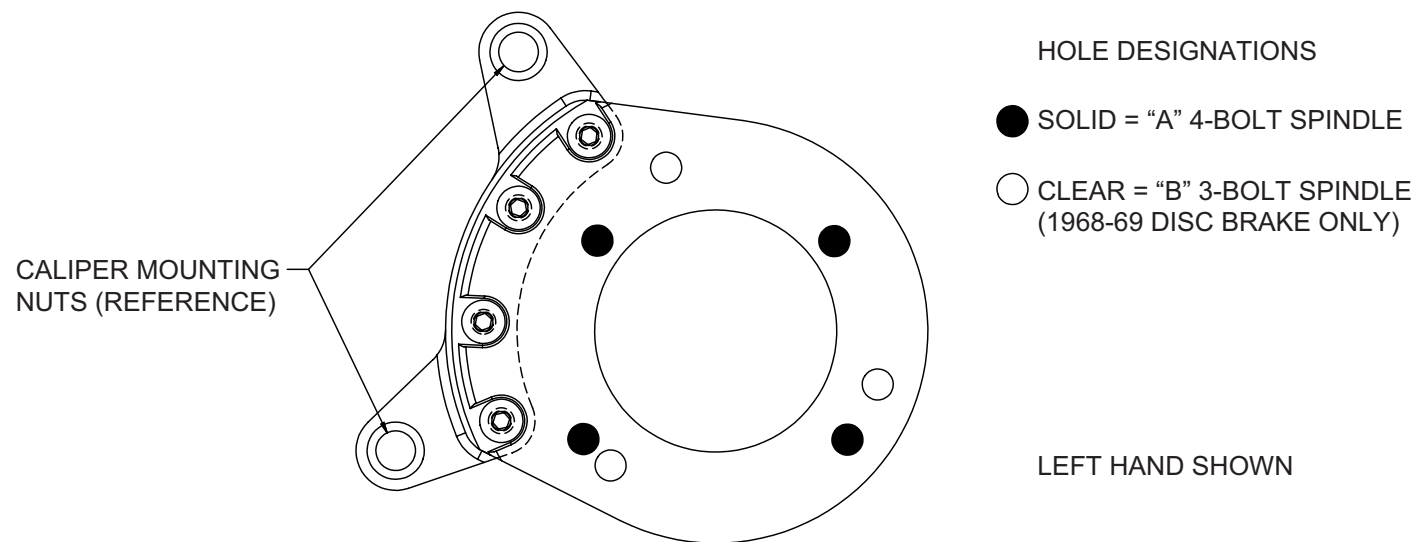
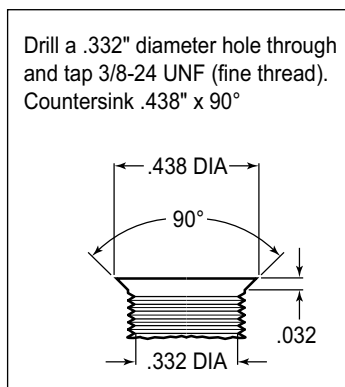
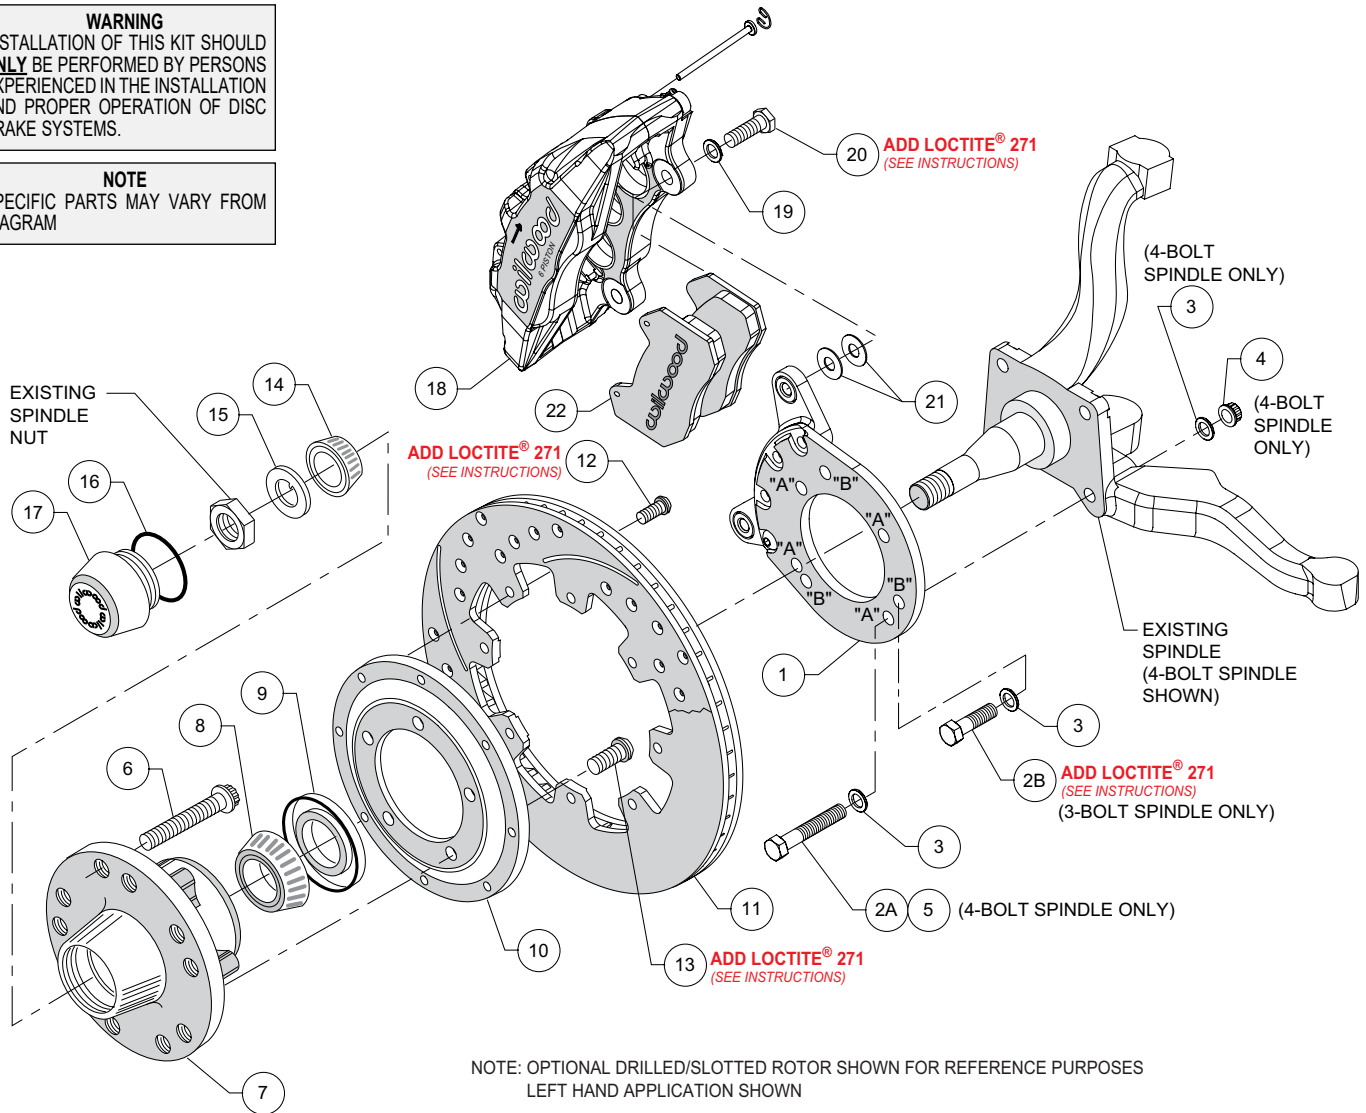

Figure 1. Wilwood Caliper Mounting Bracket
Figure 2. Drill and Tap Detail
Figure 4. Typical Installation Configuration
This kit has been designed for use with both the disc brake or the drum brake configuration of vehicle. The only difference is in how the Wilwood caliper mounting bracket is installed. The same bracket is used for both configurations; the disc brake version utilizes three mounting holes while the drum brake application uses four mounting holes (see Figure 1). For your convenience we have supplied bolt kits for both applications (see parts list and Figure 4 as necessary). Use the bolt kit that is applicable to your vehicle and disregard the other one.
NOTE: This modification should be performed by a qualified machinist and completed before assembly of the Wilwood disc brake kit begins. Using the caliper mounting bracket as a template (refer to Figure 1 as necessary), locate and verify the three original holes on the spindle that need to be modified. Drill a .332" diameter hole through all three holes, then tap 3/8-24 UNF (fine thread). Countersink the holes to .438" diameter x 90°, as shown in Figure 2.
NOTE: Numbers in parenthesis refer to the parts list on the preceding page and Figure 4.
•NOTE: This kit uses the same mounting bracket (1) for both the three and four bolt brake spindles. The 4-bolt version, Photo 1, uses four mounting bolts (designated “A”), while the 3-bolt version, Photo 2, uses three (designated “B”). Refer to Figures 1 and 4 for the basic installation position of the bracket and the “A” and “B” reference designations (not physically marked on the brackets).
For 4-Bolt Spindle: Align bracket, using the four “A” holes, to the face of the spindle and attach using bolts (2A and 5), washers (3), and lock nuts (4), as shown in Figure 4. Ensure that the flanged heads of the clinch nuts in the bracket are facing outboard, Photo 1. Torque nuts to 30 ft-lb.
For 3-Bolt Spindle (1968-69 Disc Brake): Align bracket, using the three "B" holes, to the face of the spindle and attach using bolts (2B) and washers (3), as shown in Figure 4. Finger tighten. Ensure that the flanged heads of the clinch nuts in the bracket are facing outboard, photo 2. Remove bolts one at a time, apply red *Loctite*® 271 to threads, and torque to 40 ft-lb.
- Install wheel studs (6) into the hub (7), Photo 3. Torque to 77 ft-lb.
- Pack the large inner bearing cone (8) with high temperature disc brake bearing grease (available from your local auto parts store) and install into the backside of the hub (7), Photo 4.
- Install the grease seal (9) by pressing into the backside of the hub (7), flush with the end of the hub, Photo 4.
- Orient the rotor (11) and the rotor adapter (10) as shown in Figure 4 and Photo 5. Attach the rotor to the adapter using bolts (12). Using an alternating sequence, apply red *Loctite*® 271 to the threads, and torque to 25 ft-lb.
- Mount the adapter/rotor assembly (10/11) to the hub (7) using bolts (13), as shown in Figure 4 and Photo 6. Using an alternating sequence, apply red *Loctite*® 271 to the threads, and torque to 45 ft-lb.
- Pack the small outer bearing cone (14) with high temperature disc brake bearing grease and install into hub (7). Slide the hub/rotor assembly onto the spindle. Secure using spindle washer (15) and OEM spindle nut, Photo 7. Adjust bearings per OEM specifications. Install saved OEM nut lock (if any) and a new cotter pin (not included).
- Screw dust cap (17) into hub (7), Photo 8. Friction created by the o-ring (16) on the dust cap keeps it from unscrewing. **NOTE:** *The O.D. of the existing OEM spindle washer may be larger than the I.D. of the dust cap not allowing it to seat against the hub face. Therefore, use the spindle washer (15) supplied with the kit instead of the OEM washer.*
- NOTE:** *Please reference the caution statement at the beginning of the assembly instructions. This kit contains distinct right and left hand calipers that must be mounted in a specific direction, as described below.* Mount the caliper (18) onto the caliper mounting bracket (1) using bolts (20) and washers (19), as shown in Figure 4. Initially place two .035" thick shims (21) on each bolt between the caliper and the bracket, Photo 9. Ensure that the caliper is mounted so the largest pistons are at the rotor exit end of the caliper, in relation to the direction of rotor rotation. Temporarily tighten the mounting bolts and view the rotor (11) through the top opening of the caliper. The rotor should be centered in the caliper, Photo 10. If not, adjust by adding or subtracting shims between the bracket and the caliper. Always use the same amount of shims on each of the two mounting bolts. **NOTE:** *The end of each bolt must be flush with or slightly protruding from the head of the*
- Remove the two pad retaining pins from the caliper (18) by carefully popping out the pin retaining clips and sliding out the pins. Insert the brake pads (22) into the caliper from the bottom, Figure 4 and Photo 11, with the friction material facing the rotor. Secure the brake pads in place with the pad retaining pins and clips, Photo 12. Reinstall the caliper onto the caliper mounting bracket. Apply red *Loctite*® 271 to bolt threads (20), and torque to 40 ft-lb.